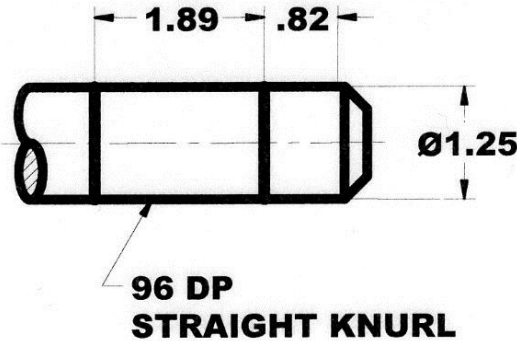

Figure 5. Dimensioning a Knurl.
- D. Knurling – is a roughened surface commonly found on thumbscrews and handles of various kinds to provide a better grip. Also can be created to provide a press fit between two parts (see Figure 5).
- b. For a press fit type knurl, the tolerance diameter of the class of fit is given before the actual knurling note. The most commonly used diametrical pitches (DP) are 64 DP (coarse), 96 DP (medium), 128 DP (fine), and 160 DP (extra fine).